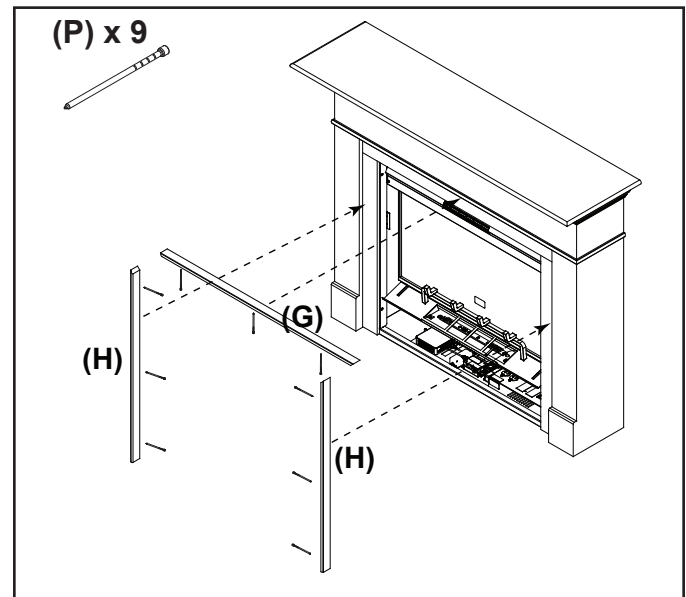

Figure 8
3. Attach the scribe (G,H), make sure its pushed back against trim facing. Nail with finishing nails (P), top assembly (G) first. Be careful not to hit the trim as you nail the scribe in place. Protect the trim with a piece of corrugated cardboard held or taped between stone and hammer as you nail. Use a nail set to set the nail head below surface of scribe, and fill the resulting hole with an appropriate filler. See Figure 8.